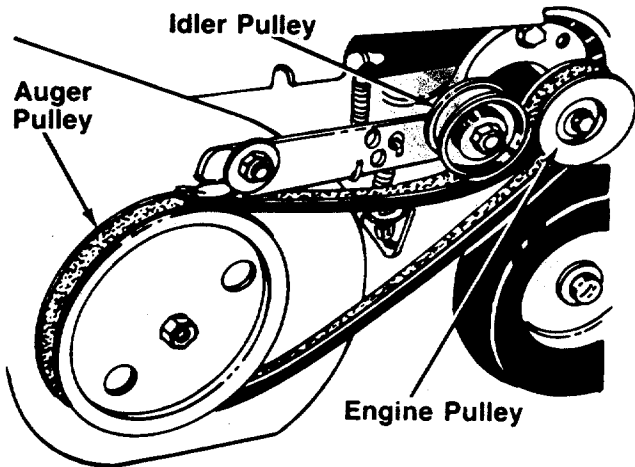

FIGURE 9.
2. Pull upward on the idler pulley and slip the belt off engine pulley. See figure 9.
3. Push down on idler pulley and slip the belt off auger pulley. See figure 9.